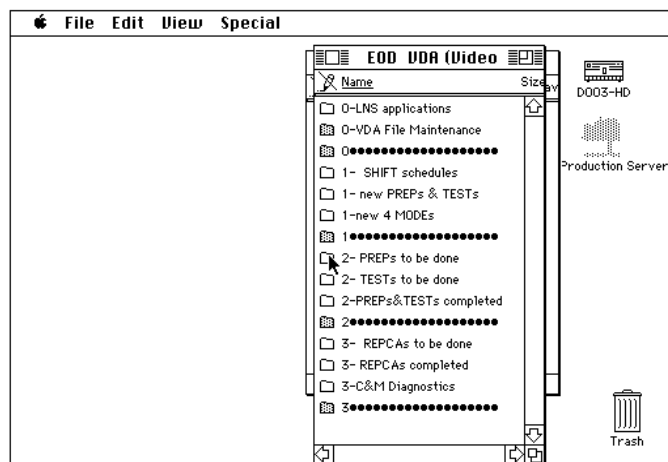

Figure 5
- 10.1 Position the mouse pointer on the “2-PREPS to be done” folder and double click to open it. See Figure 5.